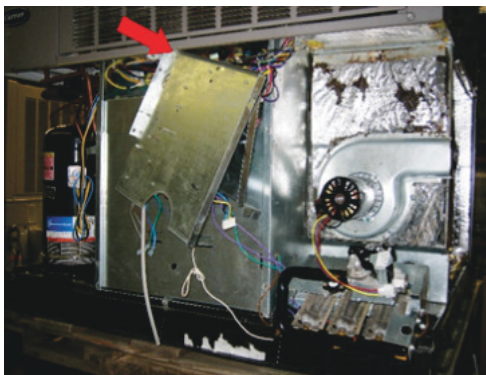

Fig. 34 – Securing Assembly to Screw Hole
14. Gently pull Heat Shield / Control Panel bracket down and forward. Then rotate control panel bracket to the left. Secure assembly to screw hole on front panel with wire tie or similar fastener (Fig. 34). Use caution when moving control panel to avoid damage to controls or wire harness while moving assembly.